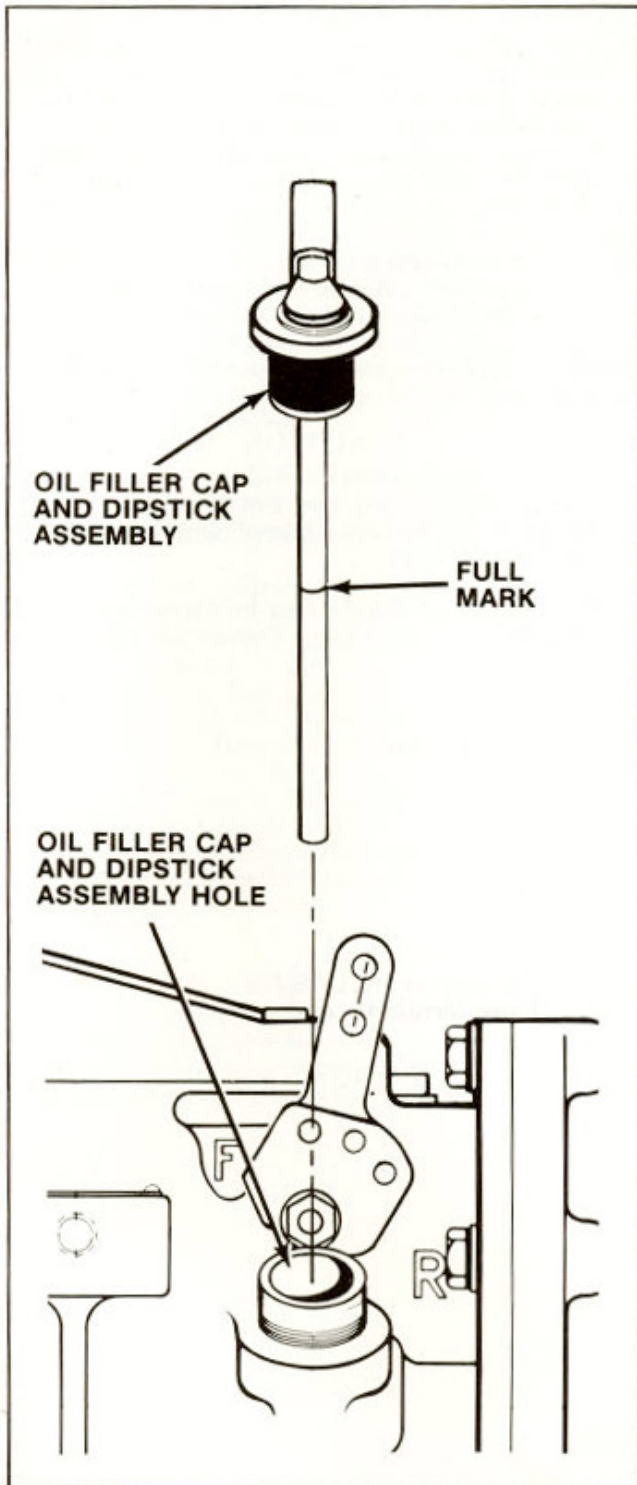

Figure 2-3. Dipstick Assembly
- Remove oil filler cap and dipstick assembly (see Figure 2-3).